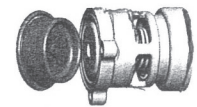

Figure 1
4. Remove the rubber diaphragm from the relief valve. Be aware of how the diaphragm is configured so that it can be reinstalled in the same manner. The hard rubber tab in the diaphragm fits into a similar socket in the head of the piston. (Figure 1)